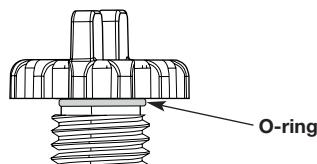

Fig. 21
- 5. Make sure the O-ring is in place on the oil fill plug (Fig. 21).
7. Make sure the O-ring is in place on the oil fill plug (Fig. 21).